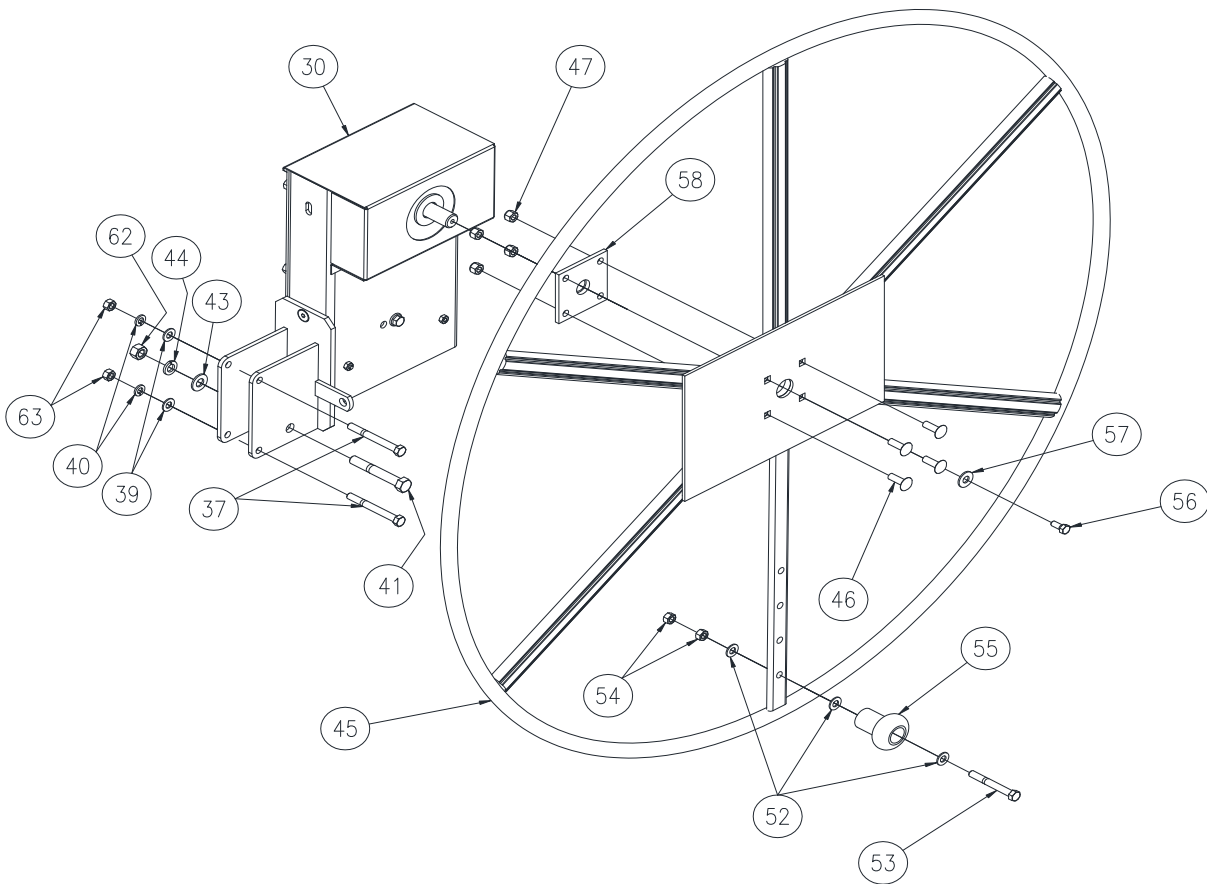

Figure 3-10
1. Refer to Figure 3-10. Clamp winch to vertical leg “A”. Mount the winch such that any optional canopy cover will not interfere with removing and replacing the winch cover.
3. Starting from the bottom of winch, reeve the cut end of cable between the cable guide roller assembly, and up the backside of winch. Wrap the cable over the top of winch drum, inserting cable into the hole on the LEFT SIDE of drum as shown in Figure 3-10. **Keep the cable flush with the drum wall.**